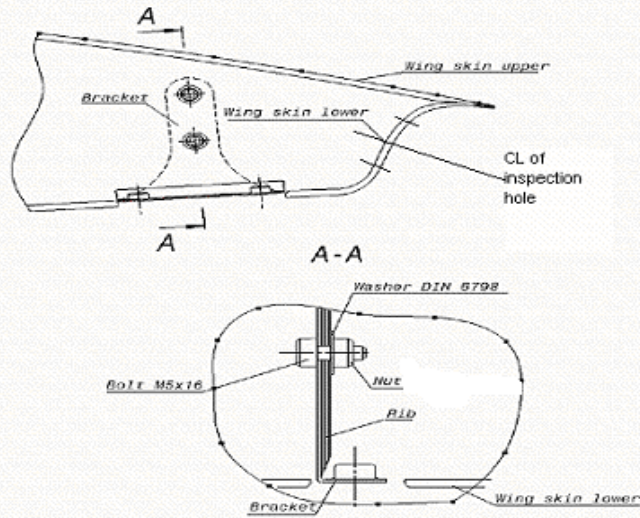

Fig. 3
3. Cut away the skin at the edges of the bracket foot recess, fig 3.